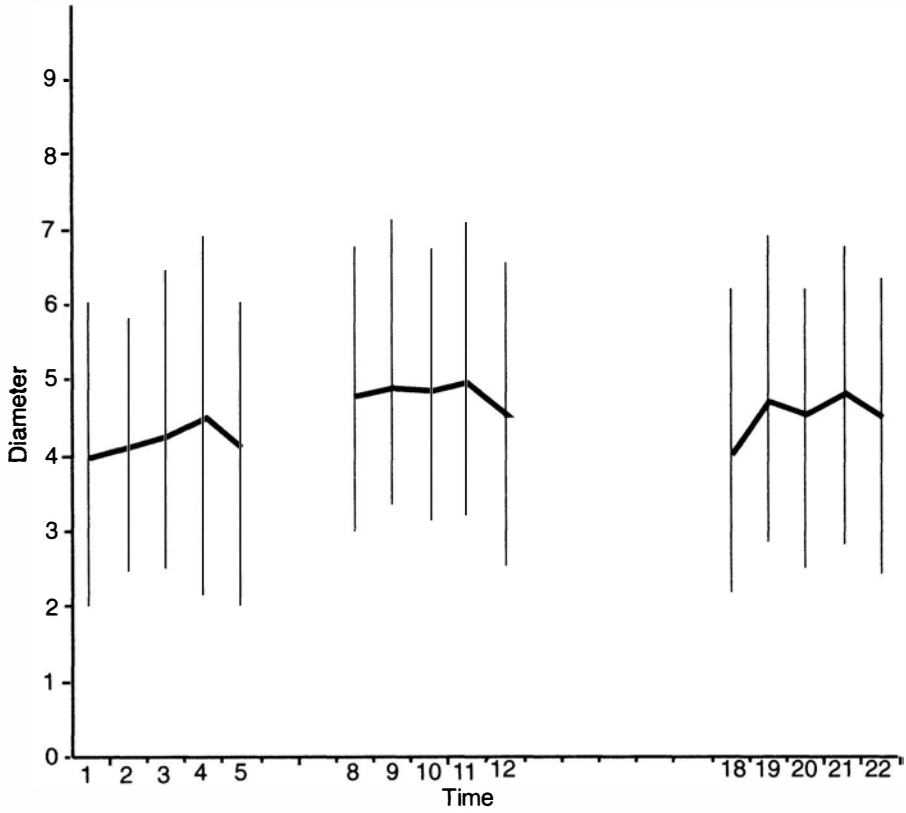

Figure 1 *Multi-vari chart*
Five parts were taken from a turning operation every 25 minutes. The diameter of each part was measured and plotted on the chart. A straight vertical line was drawn through each set of five points (Figure 1). In the multi-vari chart, the dispersion over the short time period is stable but the dispersion over the longer period looks suspicious. In this analysis, the length of the line describes the dispersion over a short period of time and the location of the lines indicates the dispersion over long periods of time.
- 2 Plot the data from the table onto the np control chart (see Figure 1 on page 196). The successive lot numbers are shown on the horizontal axis, the number of defective units is shown on the vertical axis.